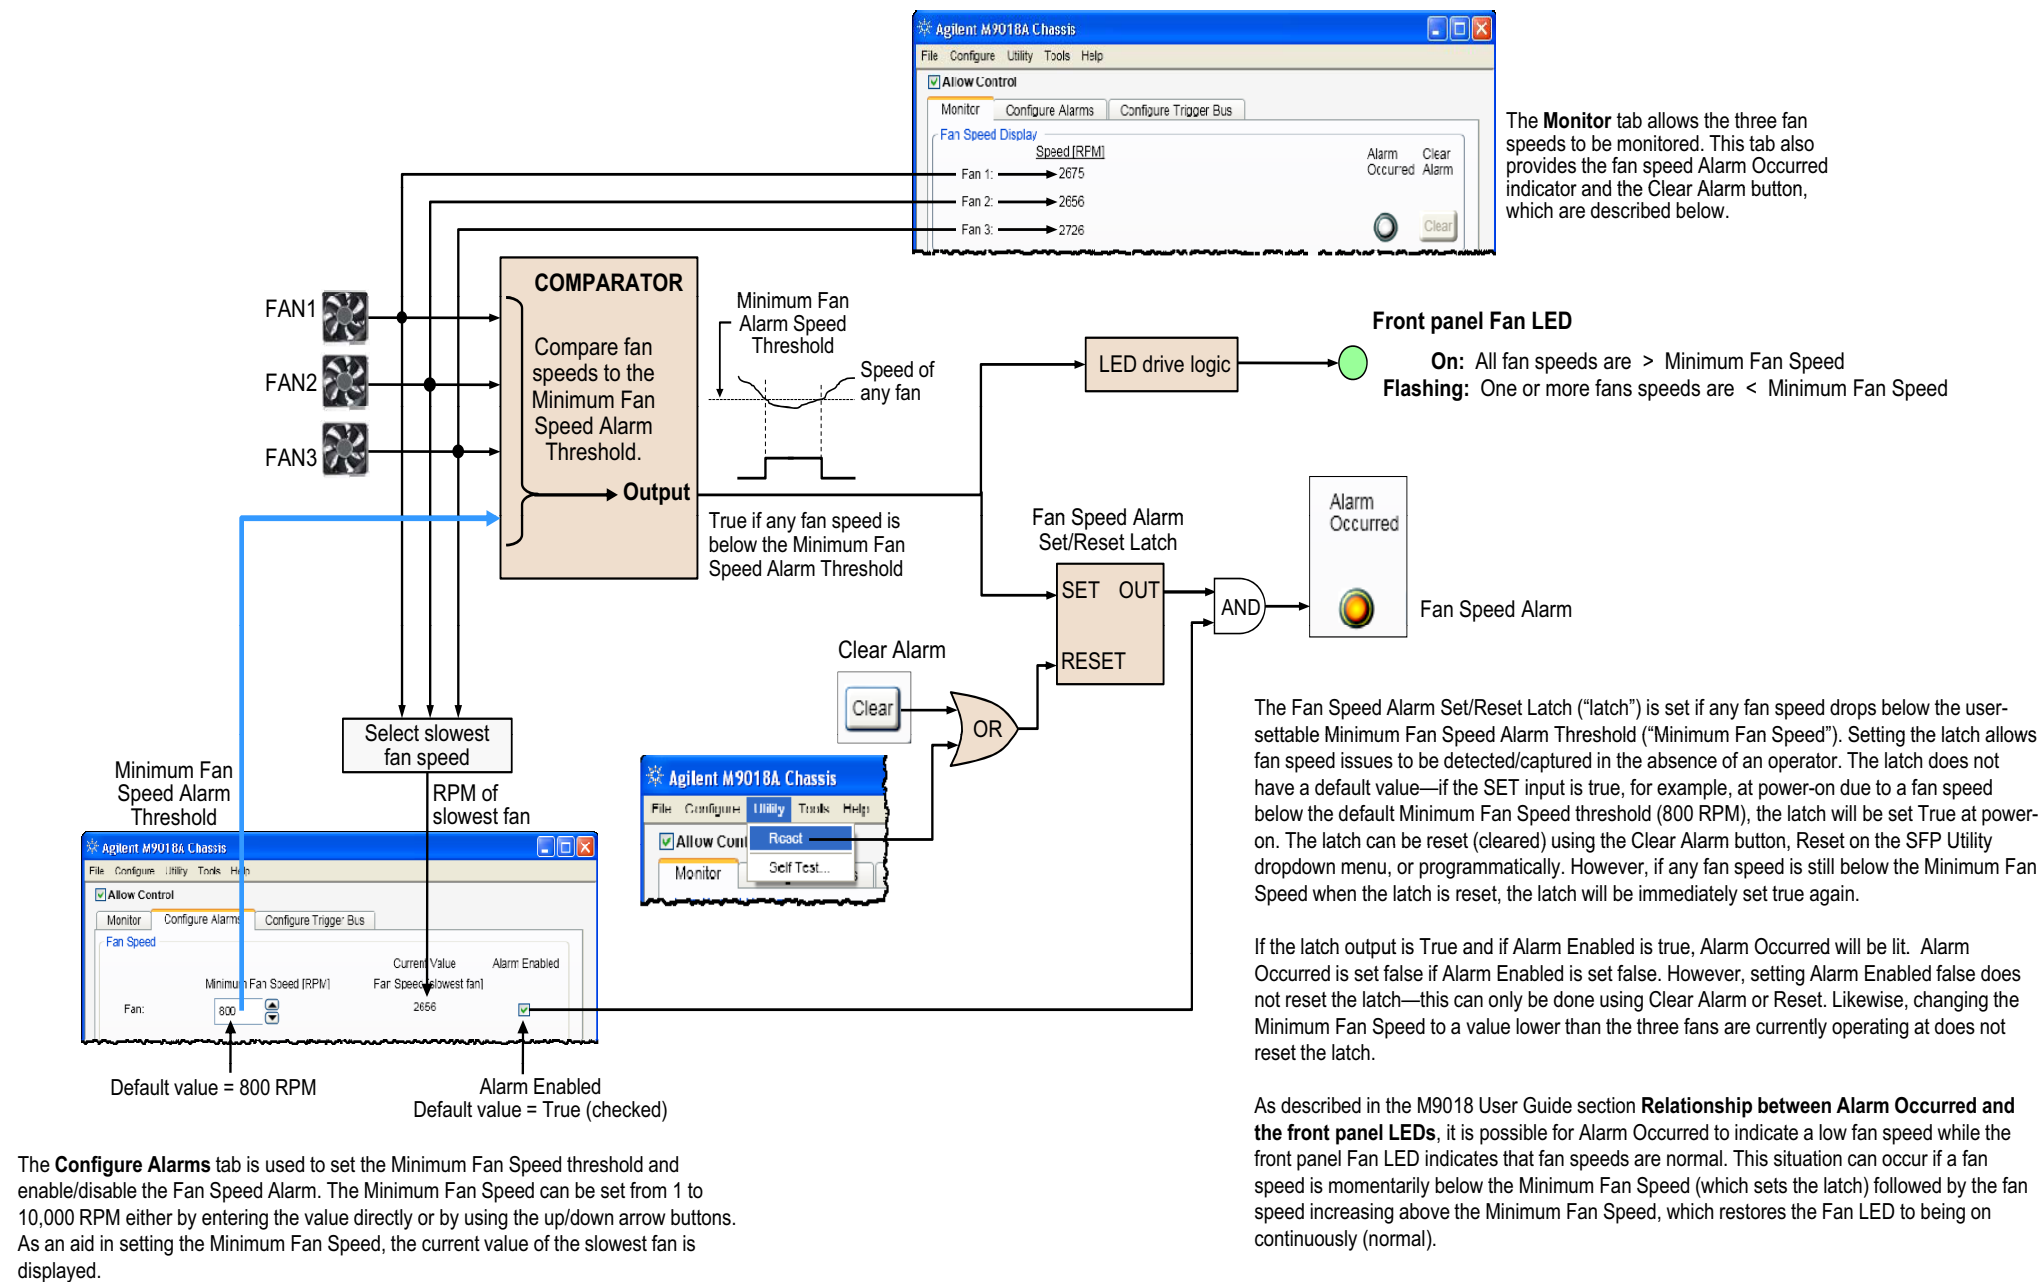

Figure 17 Fan speed monitoring using the SFP and the front panel Fan LED
- SFP and the front panel Fan LED – Figure 17 on page 40